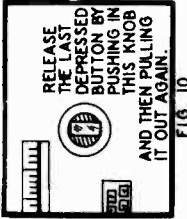

FIG. 10
11. In order to release the last button which now remains depressed, grasp the knob on the station selector shaft and push it back into the cabinet so far as it will go and then pull it out again. Do not forget to "rock" the control when pulling it out in order that its gears may mesh properly (see fig. 10).